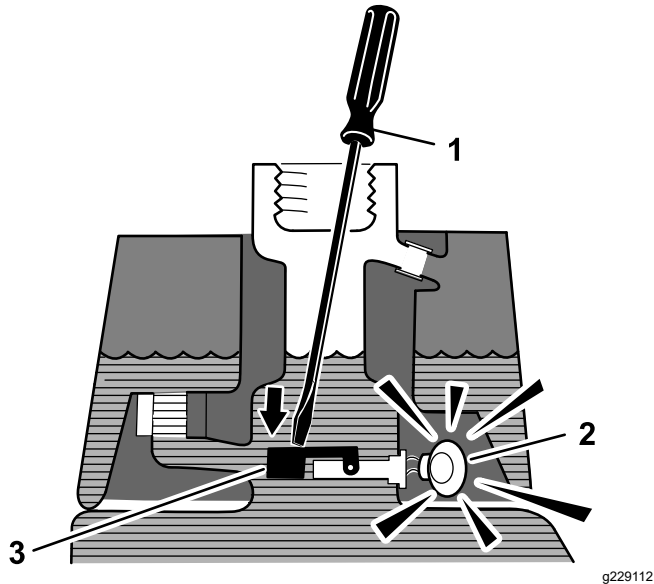

Figure 49
3. Insert a clean rod or screwdriver into the tank neck and gently push down on the float switch (Figure 49); the alarm should sound after the 1-second delay.